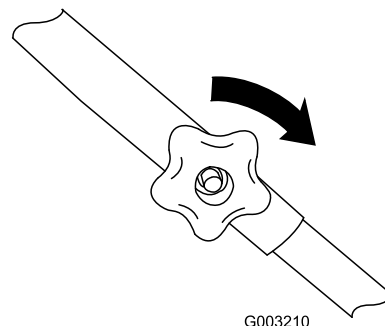

Figure 4
3. Install the bolts and upper handle knobs with the knobs on the outside of the handle, tightening the knobs as tight as you can (Figure 4).